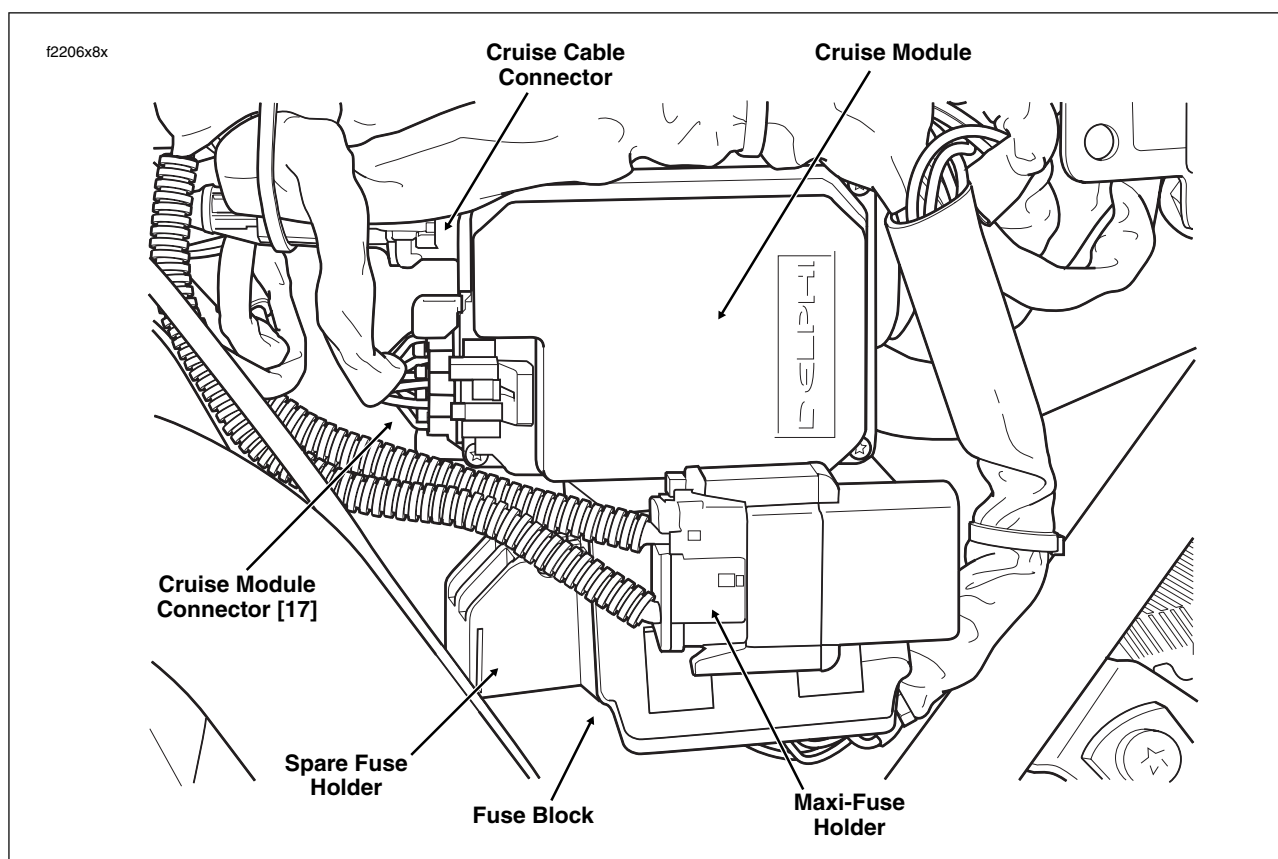

Figure 8-128. Cruise Control Module (Under Left Side Cover)
6. Rotate cruise cable connector in a counterclockwise direction to detach from cruise module. See Figure 8-128.
7. Lift the locking latch and remove the cruise module connector [17]. See Figure 8-128.
7. Install the cruise module connector [17] until locking latch engages. See Figure 8-128.